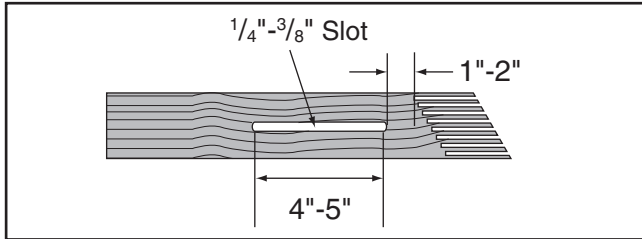

Figure 64. Slot routed in featherboard.
- Rout a $\frac{1}{4}$ "- $\frac{3}{8}$ " wide slot 4"-5" long in the workpiece and 1"-2" from the short end of the featherboard (see **Figure 64**).